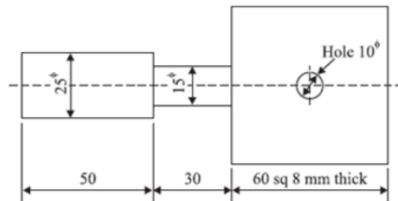

Figure .3
14. a Estimate the net weight and gross weight for the manufacture of 500 levers shown in Figure. 3. The material weighs 7.8 gms/cc and the total losses account for 25 percent of net weight of the lever. Also calculate